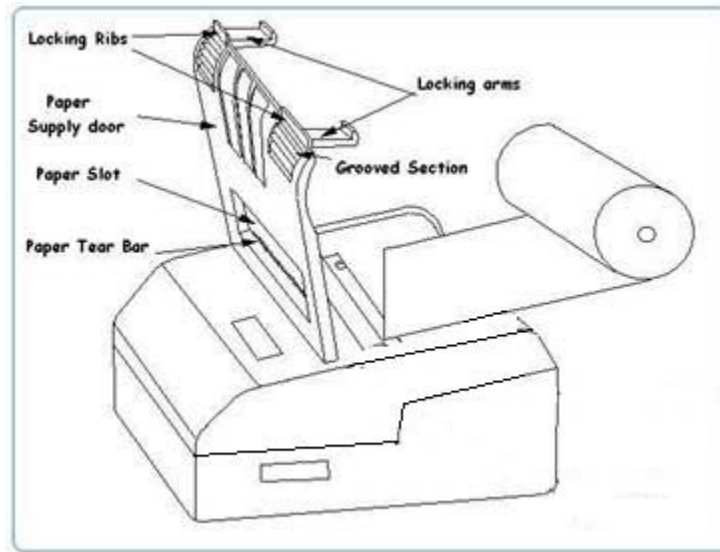

FIGURE 4: Loading printer paper
- Open the paper supply door by pushing up the locking ribs (figure 4).